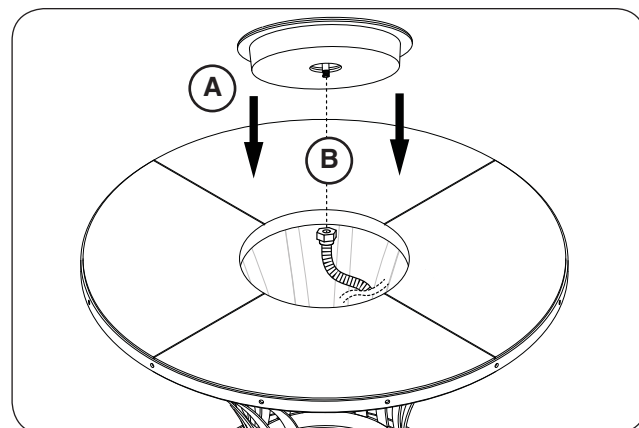

Fig. 28-4 Place burner and connect flex
6. Drop the burner assembly into the opening in the center of the firetable top (see Fig. 28-4, A).
7. Locate the flex connector (marked OUT) that is coming off the valve assembly. Route it to the connection found on the underside of the burner assembly and connect. Tighten securely. See Fig. 28-4, B.